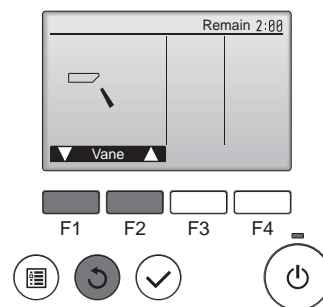

Fig. 5-6
- ① Check the auto vane with the buttons. (Fig. 5-6)
- ② Press the button to return to "Test run operation".
- ③ Press the button.